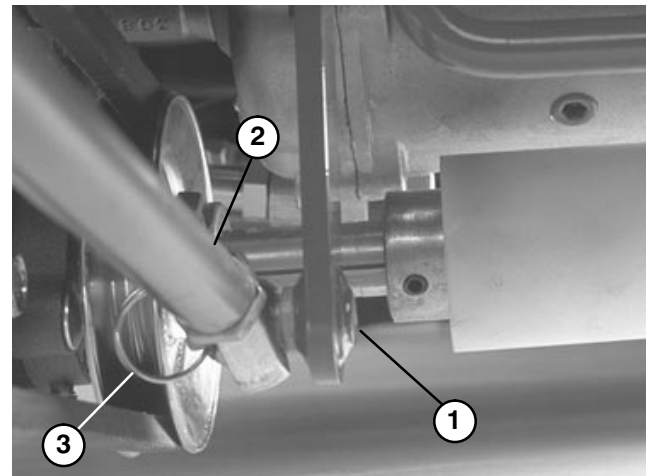

Figure 26
INSTALL BELT TENSIONERS (Fig. 26 & 27) (Floating Cutting Units)
1. Secure a tensioner rod to each traction unit hanger bracket with a pin (Fig. 26).
INSTALL BELT TENSIONERS (Fig. 26 & 28) (Fixed Cutting Units)